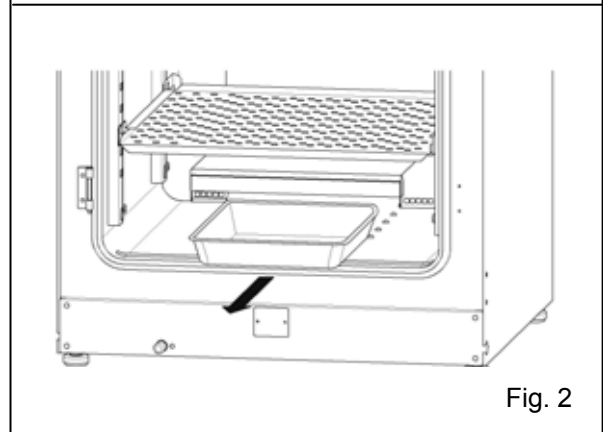

Fig. 2
3. Lift the front of the tray supports and pull them out. (See Fig. 2.)
2. Pull the humidifying pan forward. (See Fig. 2.)
5. Set the humidifying pan cover, humidifying pan, fan cover, the N2 or O2 gas injection nozzle and the N2 or O2 gas injection nozzle tube as shown in Fig. 2, and close the inner door and outer door .